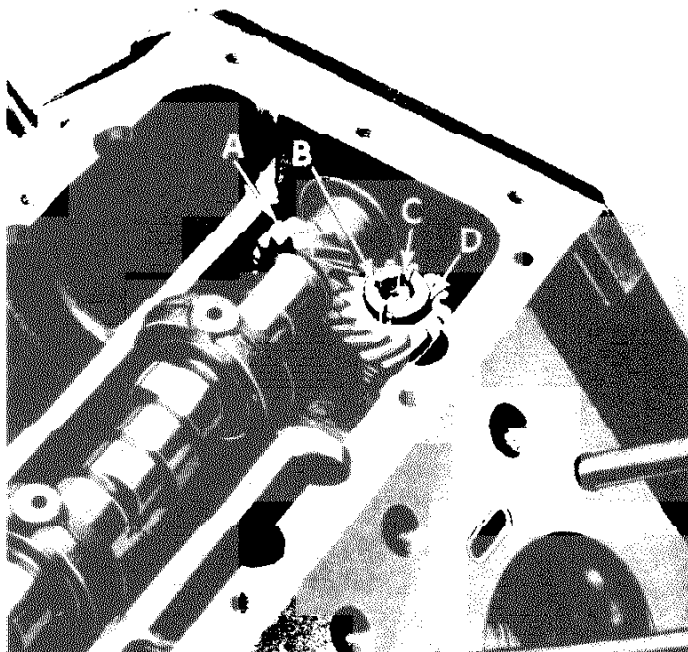

Figure E30
- (ii) With the timing chain cover removed so that the timing gears are visible. The crankshaft is set so that the two sets of valve timing marks align as detailed in the ENGINE UNIT, SECTION D, VALVE TIMING. The gear and shaft assembly is fed through the tappet block and cover to mesh with the camshaft gear so that the groove in the top face of the gear is almost parallel to and offset away from the centre of the engine unit. Fig. E30.